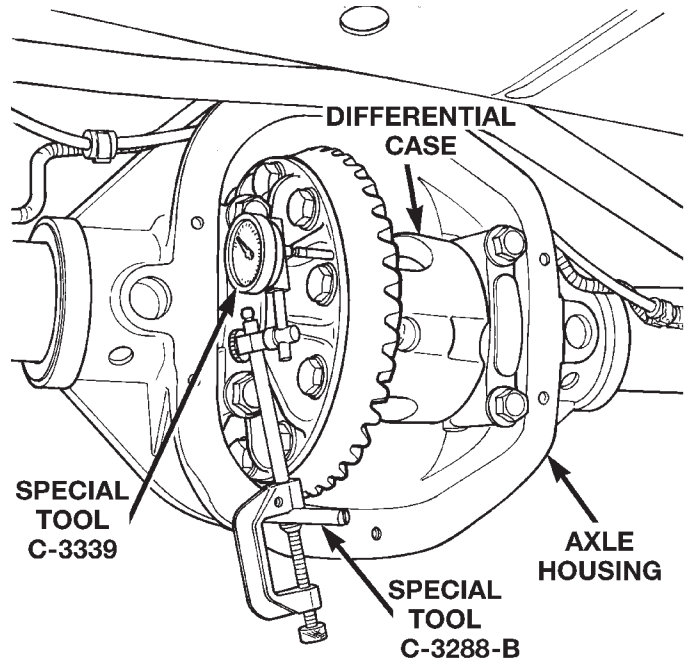

Fig. 65 Differential Side play Measurement
(8) Thread guide stud C-3288-B into rear cover bolt hole below ring gear (Fig. 65).
(9) Attach a dial indicator C-3339 to guide stud. Position the dial indicator plunger on a flat surface between the ring gear bolt heads (Fig. 65).
(20) Position the dial indicator plunger on a flat surface between the ring gear bolt heads. (Fig. 65).